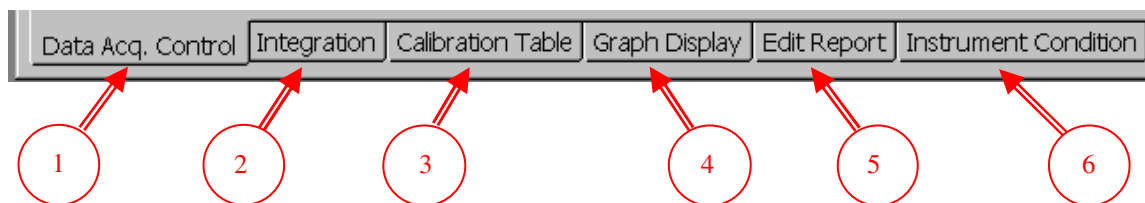

Figure C-200. Tool bar for editing the method for experiment
3. At the bottom of this dialog box please find the bar for further choices as shown in Figure C-200.